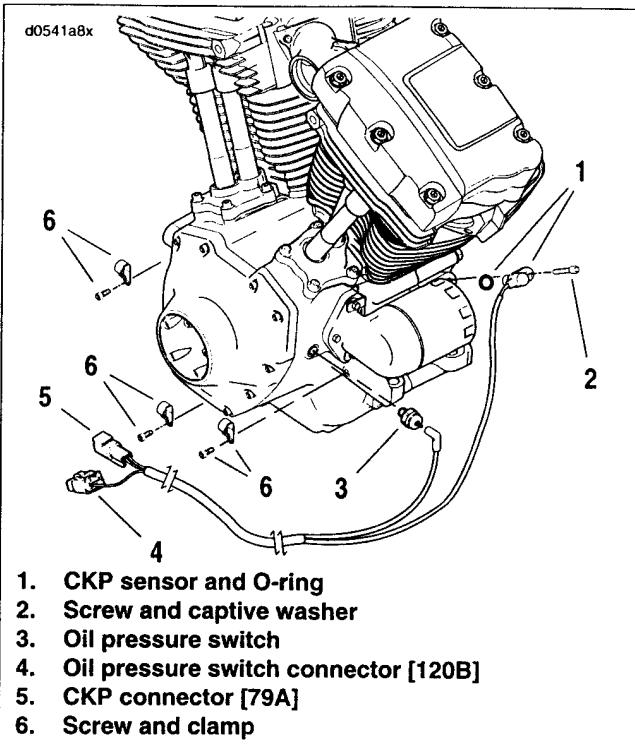

Figure 8-14. CKP Sensor Assembly
See Figure 8-14. The crank position sensor is a variable reluctance (VR) sensor that generates an AC signal by sensing the passing of the 30 teeth machined in the left side flywheel. Two consecutive teeth are missing in the flywheel to establish a reference point. The crank position sensor sends a signal to the ignition module which is used to reference engine position (TDC) and engine speed.
1. See Figure 8-14. Lubricate CKP sensor O-ring (1) with clean engine oil.
4. See Figure 8-14. Attach connector sheath to crankcase with clamp and T20 TORX screw (6). Tighten screw to 25-35 in-lbs (2.8-3.9 Nm).
5. Attach wire to oil pressure switch (3).